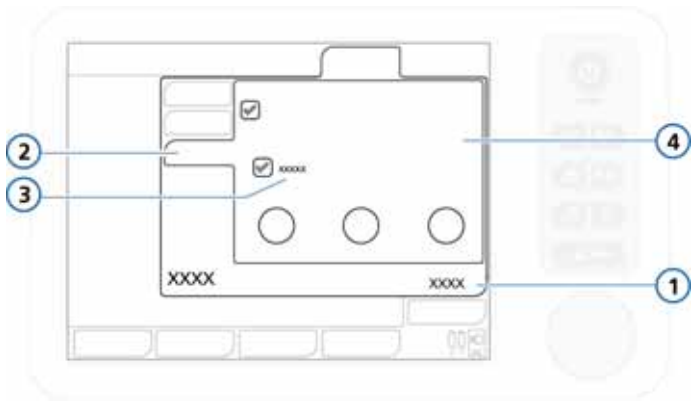

Figure 5-7. Apnea window, Automatic button
4. If applicable, open the **Controls** -> **Apnea** window (Figure 5-7). Select or deselect **Backup** as desired.
3. If applicable, open the **Controls** -> **Apnea** window (Figure 5-7).